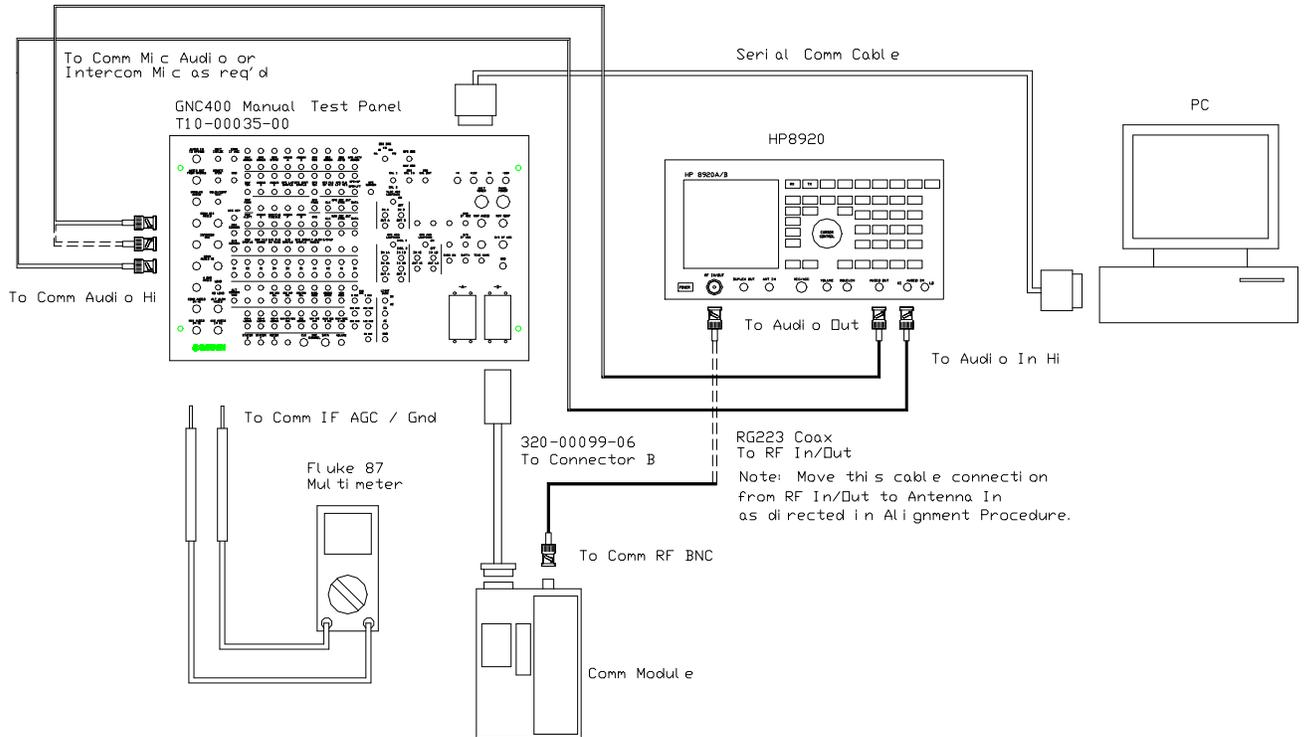

Figure 1
3. Make the following connections for the Manual Test Panel as shown in Figure 1 and described here. Connect an approved 6 ft RG-223 cable between the comm transceiver antenna connector and the HP8920A/B RF IN/OUT connector. Connect the 320-00099-06 Ca Assy, (B), GNC400 COMM to the 26-pin high-density connector on the back of the comm (J2) and to the surface mount connector J26 on the top side of the comm. Connect the other end of the cable to the (B) connector on the manual test panel. Connect COMM AUDIO HI on Manual Test panel to HP8920A/B AUDIO IN HI. Connect Audio Out on HP8920A/B to Manual Test Panel connector marked COMM MIC AUDIO. Connect serial port cable from PC to serial port input connector on manual test panel.